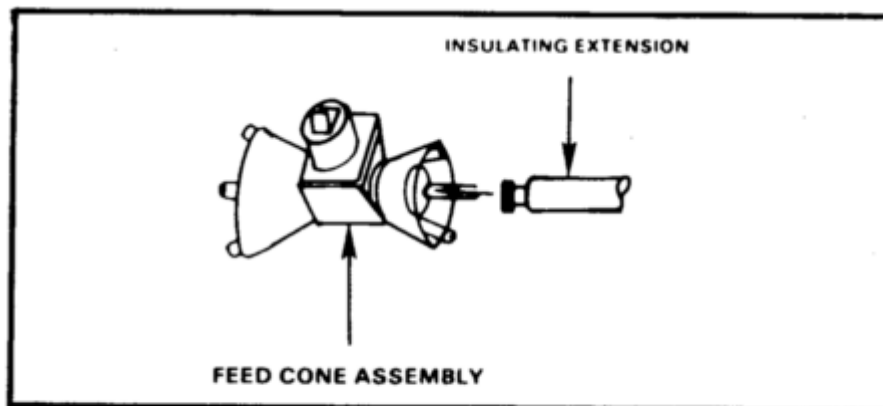

Figure 3-9. Connecting insulating extension to feed cone assembly.
- a. Coat the threaded portion of the insulating extension with silicone compound (Figure 3-9).